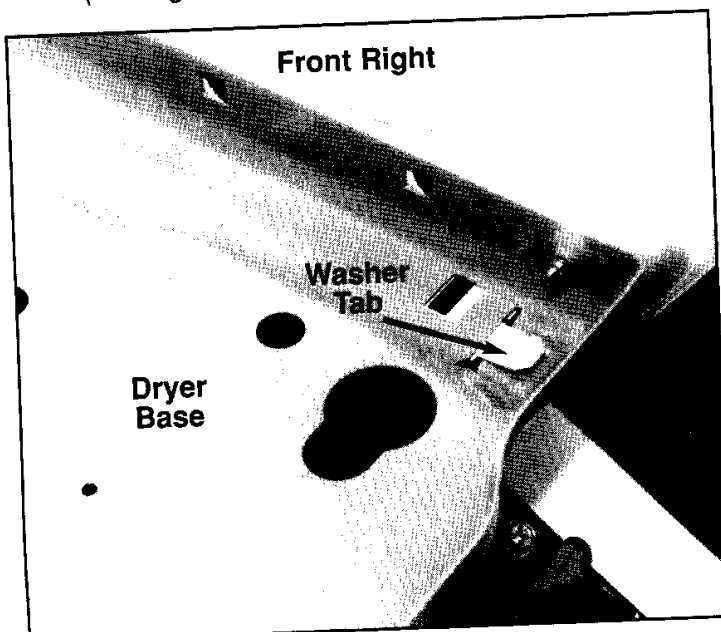

Figure 36
15. Check to make sure the tabs on the washer are engaged in slots at the front of the base of the dryer. (See figures 36 & 37 – some components removed for clarity.)